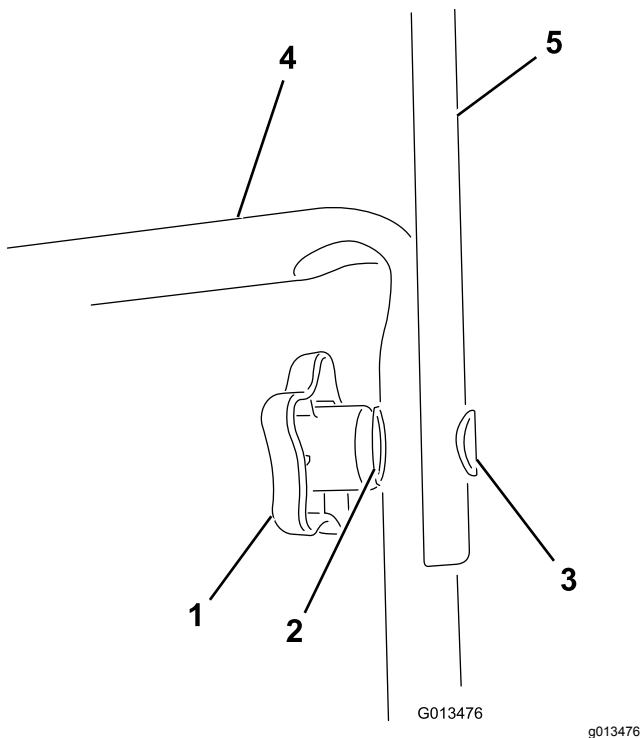

Figure 1
1. Remove the handle knobs, oval bolts, and curved washers from the lower handle (Figure 1).
2. Install the upper handle to the lower handle of the appliance with the handle knobs, curved washers, and oval bolts as shown in Figure 1.